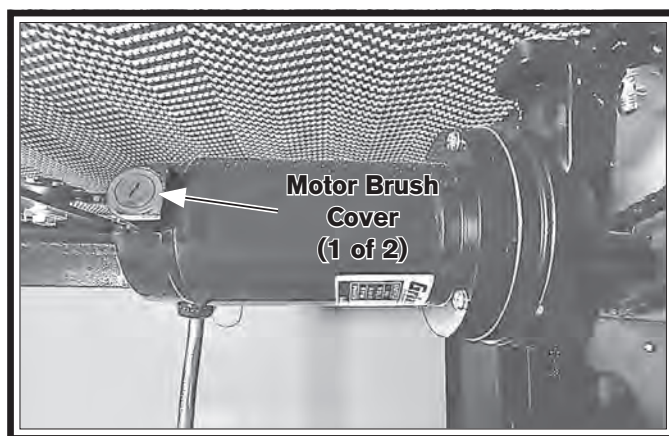

Figure 56. Location of motor brush cover (1 of 2).
4. Remove motor brush cover, then remove spring and carbon brush, (see Figure 56).